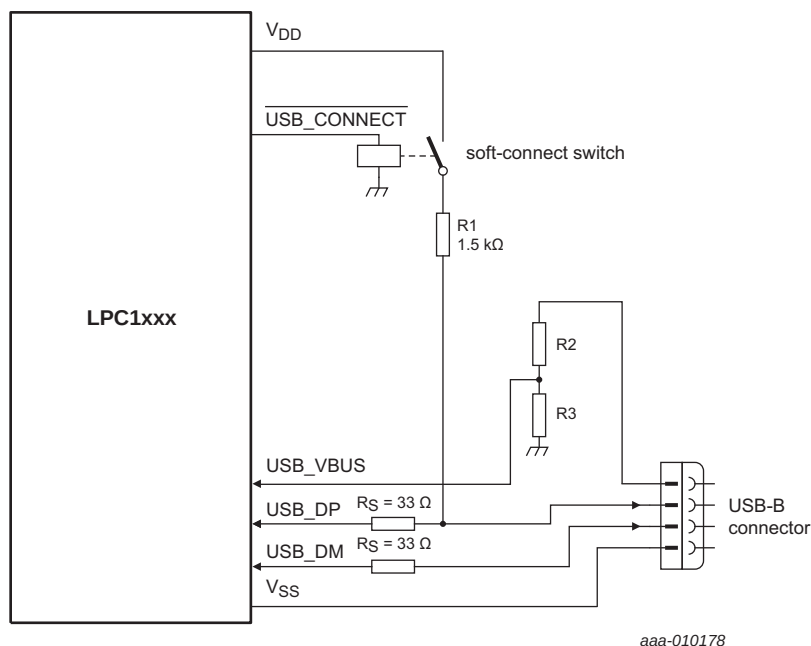
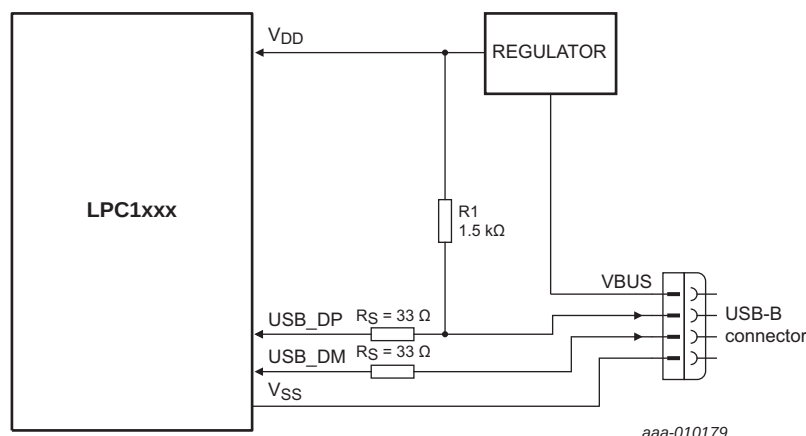

**Fig 27. USB interface on a self-powered device where USB\_VBUS = 5 V**
**Fig 28. USB interface on a bus-powered device**
The USB device can be connected to the USB as self-powered device (see Figure 27) or bus-powered device (see Figure 28).
For a bus-powered device, the VBUS signal does not need to be connected to the USB\_VBUS pin (see Figure 28). The USB\_CONNECT function can additionally be connected as shown in Figure 27 to prevent the USB from timing out when there is a significant delay between power-up and handling USB traffic.
**Remark:** When a bus-powered circuit as shown in Figure 28 is used, configure the `PIO0_3/USB_VBUS` pin for GPIO (`PIO0_3`) in the `IOCON` block to ensure that the `USB_CONNECT` signal can still be controlled by software. For details on the soft-connect feature, see the *LPC11U3x user manual* (Ref. 1).